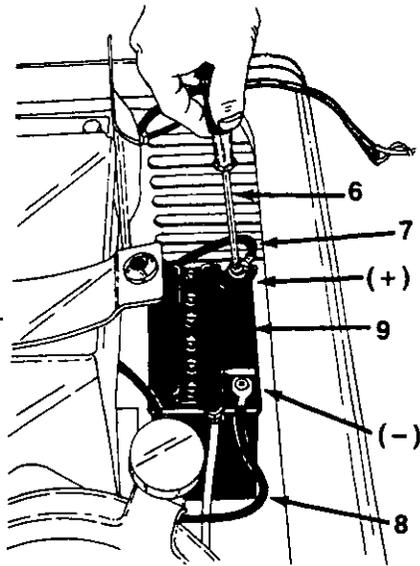

FIGURE 4.
6. Remove the negative (-) cable (black) on battery first. See figure 4. Use a phillips head screwdriver.
7. Remove the positive (+) cable (red) on battery second. See figure 4.